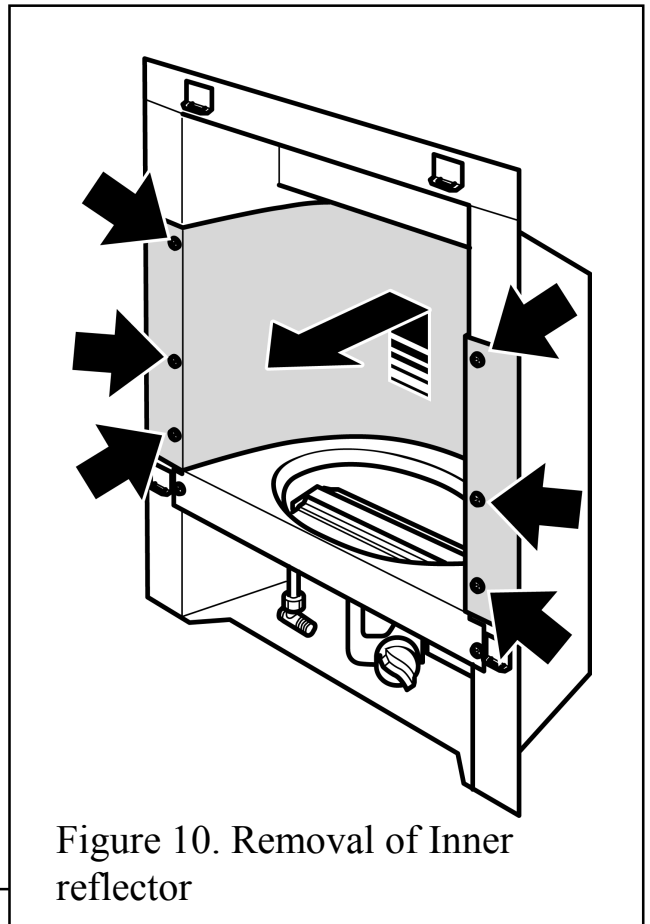

Figure 10. Removal of Inner reflector
3. Remove the six screws from the side of the inner reflector (See figure 10).
4. Carefully lift the inner reflector and pull forward to remove. **Be careful not to scratch the top surface of the burner cover (See figure 10). The reflector may 'spring' a little. For this reason it is important to hold the edges firmly when removing.**